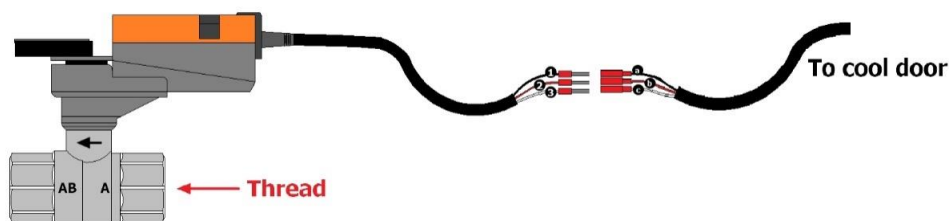

Figure 3-13: Cut Off Valve
- Power wiring is performed according to the terminal wire colors, as shown in *Figure 3-13*. The ball valve has directionality; direction of water flow is from A to AB. A is connected to the outer piping, and AB is connected to the soft tube inlet.
| Flow direction (A to AB) | Refer to Figure 3-13 |